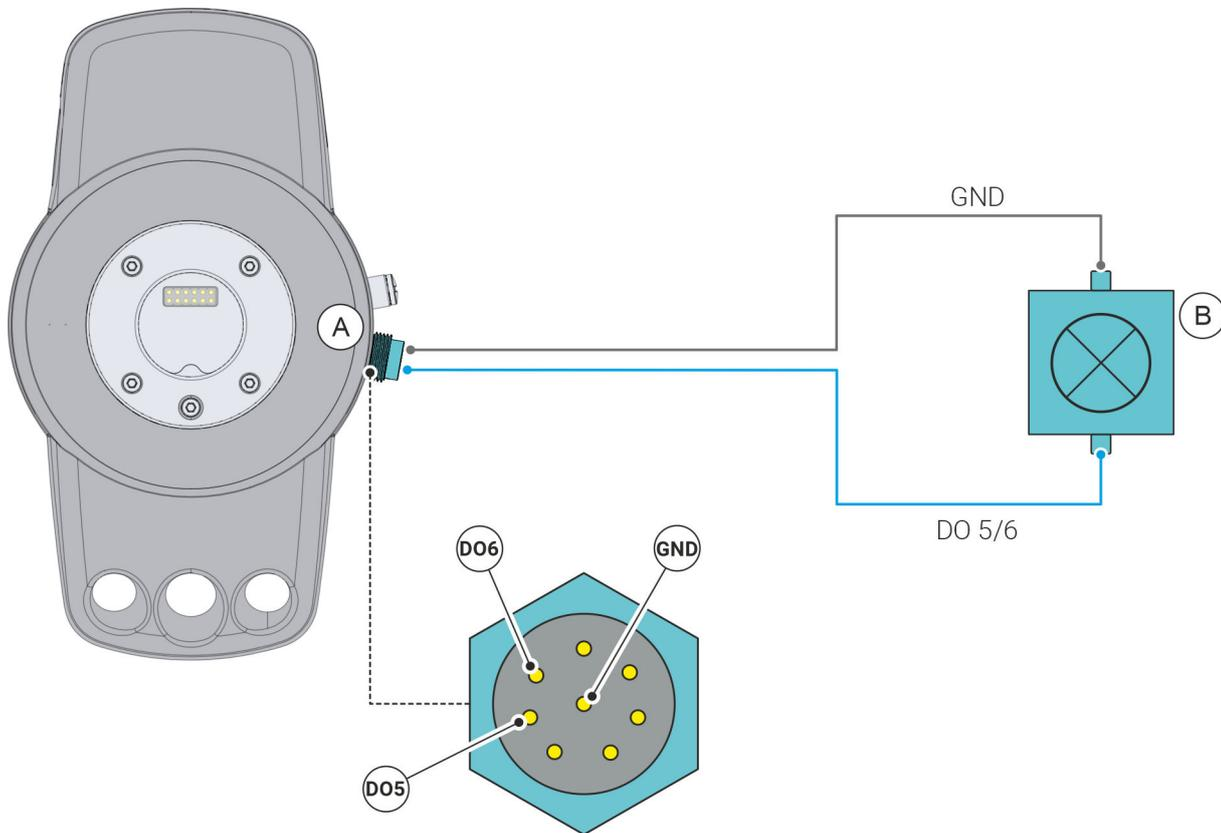

Fig. 64 Connecting a signal lamp via digital outputs
- (A) External 8-pin electrical interface
- (B) Signal lamp
01. Connect the signal lamp to the digital output **DO 5** or **DO 6** of the 8-pin interface Fig. 64.
02. Connect the signal lamp to the ground connection (GND) of the 8-pin interface Fig. 64.